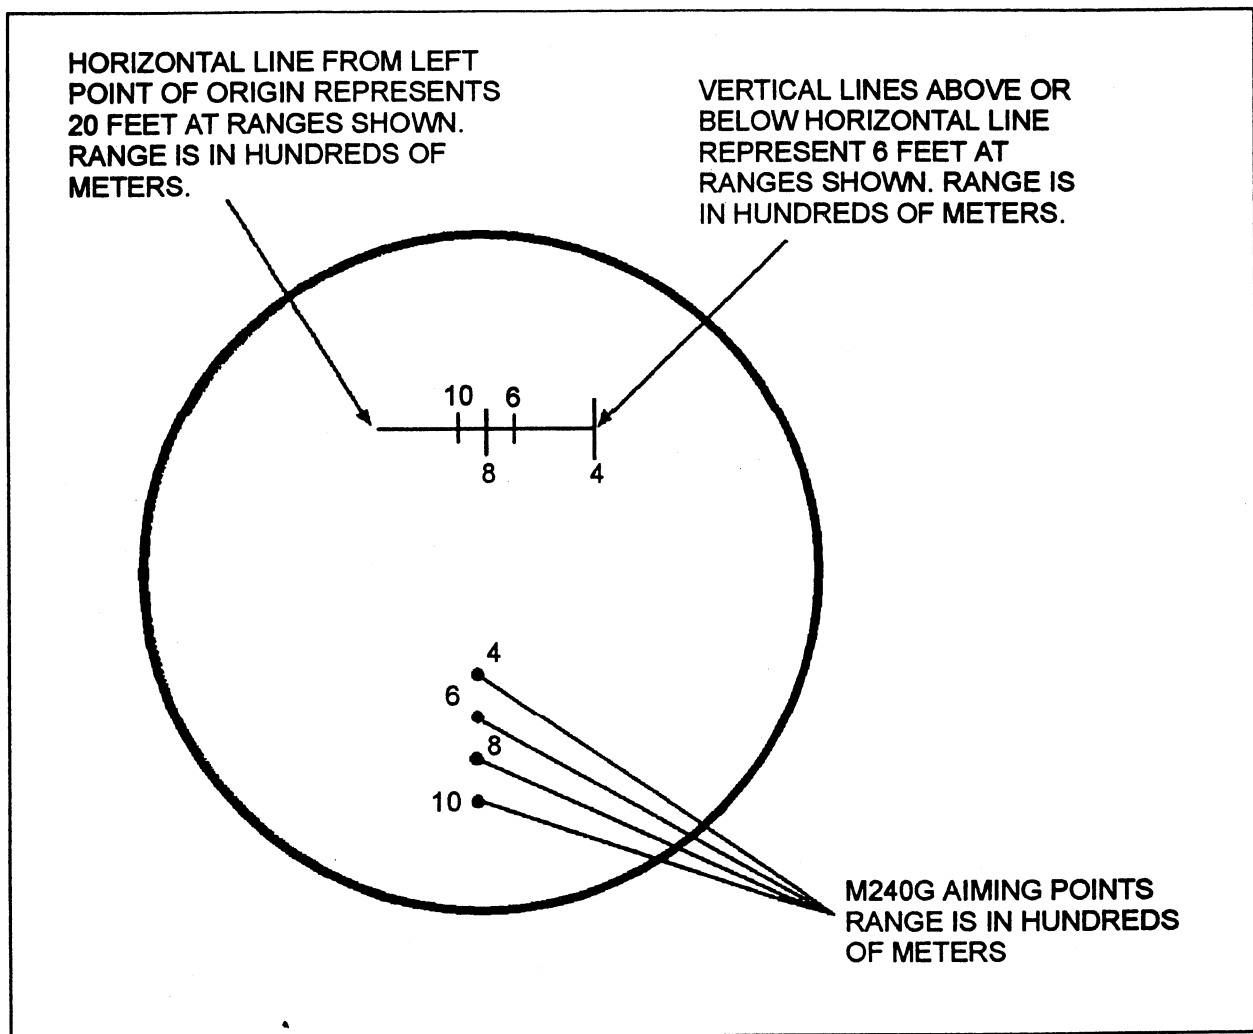

Fig 2-10. AN/PVS-4 reticle pattern for M240G machinegun.
b. Two parts. Figure 2-10 shows an AN/PVS-4 reticle pattern for a 240G. Notice that the reticle pattern for the AN/PVS-4 has two parts: